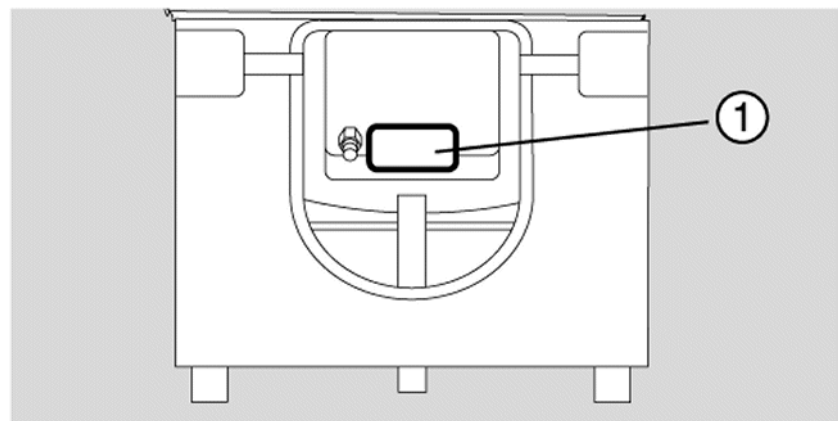

Figure 7 Side view of the Caleo
5. Hold the fresh-air filter holder (Figure 7/1) by the recessed grip, pull the fresh-air filter holder downwards and remove.